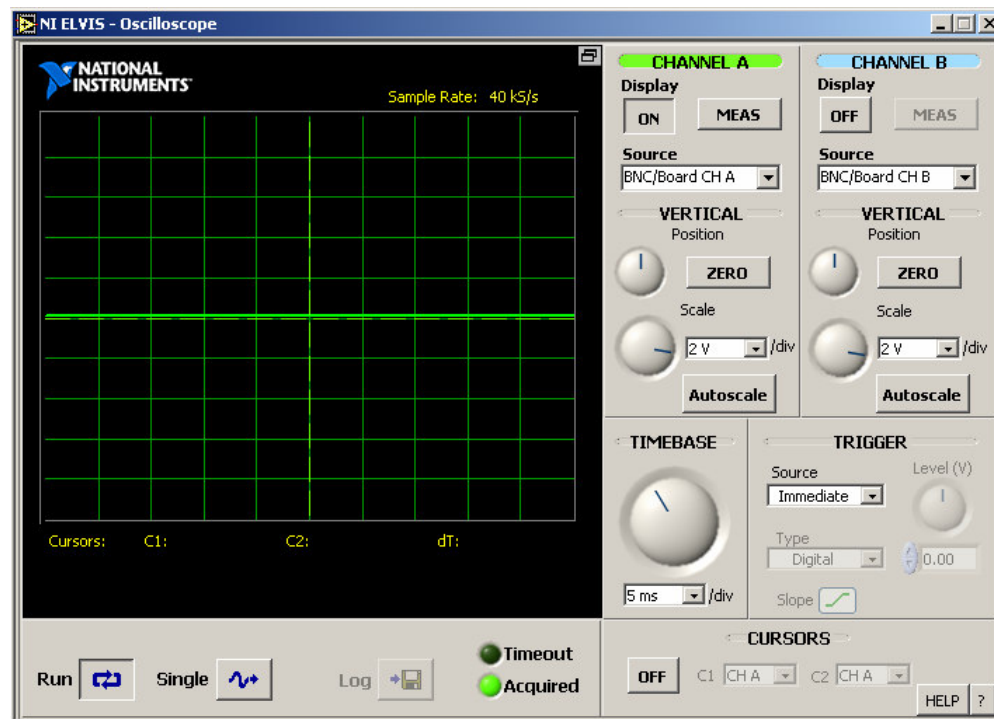

Fig. 12. NI Elvis Oscilloscope interface.
7. From NI Elvis instrument launcher, click on "Oscilloscope". The oscilloscope SFP is similar to most oscilloscopes, but NI Elvis oscilloscope can automatically connect to variety of inputs. The initial oscilloscope SFP without any signals should appear as shown in figure 12.